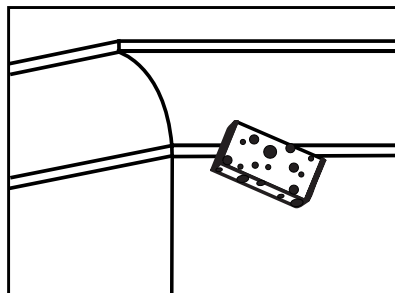

FIGURE 72 Wipe Down
- > Wipe down the cornice with a wet sponge [Figure 72].